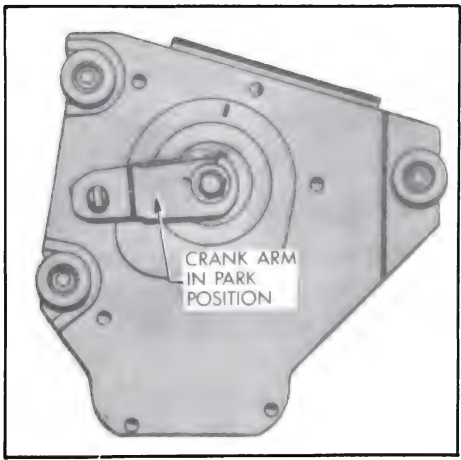
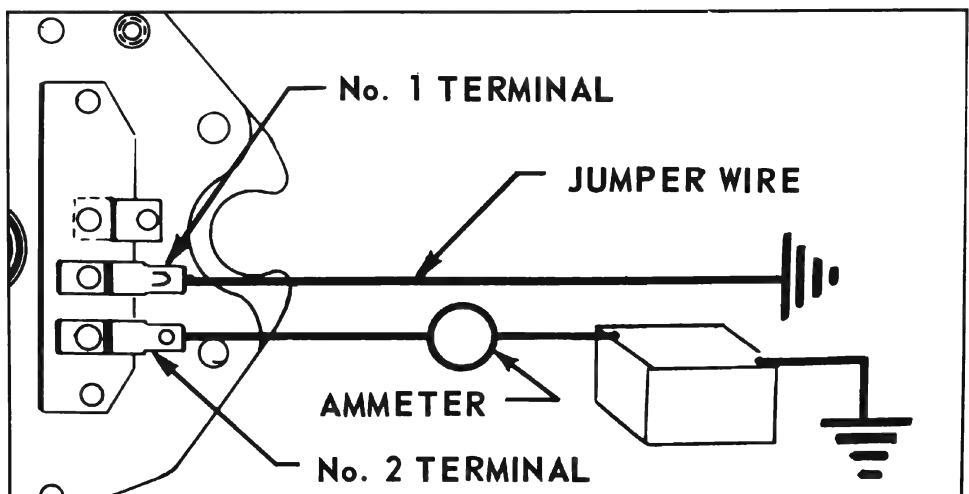

Figure 10-100—Park Position of Crank Arm
Figure 10-102—Connections to Operate Wiper Out of Car
When the car owner shuts the wiper "off" at the dash switch, the motor circuit to ground is opened at the dash. However, the parking switch contacts, which are normally closed, maintain the motor circuit to ground at the wiper. This allows the wiper to keep operating until the blades or wiper crank arm reach the park position (Blades approx. 2" above windshield molding). (Figure 10-100 shows the crank arm in park position.) At the same time the blades reach the park position, a cam on the output gear opens the park switch contacts. This opens the motor circuit to ground, stopping the motor. Thus, the park switch actually controls wiper operation only during that short period of time, after the owner turns the wiper "off" at the dash switch but before the wiper has completely stopped.
Figure 10-102 shows the proper method of connecting jumper leads to the wiper so that it can be operated independently of the dash switch or car wiring for test purposes. (NOTE: Specification table at end of this section lists current draw data.)
Step (a) but wiper still fails to operate, disconnect wiring harness from wiper and check for 12 volts at harness terminal that connects to wiper terminal No. 2, Figure 10-102. No voltage indicates defective car wiring. **CAUTION: DO NOT connect hot line to No. 1 terminal.**
(c) Connect 12 volt supply to No. 2 wiper terminal and connect a jumper wire from terminal No. 1 to ground (Figure 10-102). If wiper operates, the dash switch or wiring between dash switch and wiper is defective.
wiper terminal No. 2 (Figure 10-102). **DO NOT** connect any jumper wire to terminal No. 1.
Connect a 12 volt supply and an ammeter to wiper as shown in Figure 10-102 and observe current draw and wiper operation.
Wiper crank arm fails to stop in park position when jumper wire is removed from wiper terminal No. 1 (Figure 10-102).
(b) Check for grounded condition in the internal motor lead that connects to terminal No. 1, Figure 10-102.
Wiper crank arm stops rotating immediately when jumper wire is disconnected from wiper terminal No. 1 (Figure 10-102). **NOTE:** Crank arm should continue to rotate until park position is reached (Figure 10-100).
2. Reassembly of Crank Arm - Operate wiper to park position (Figure 10-102) and install crank arm on output shaft in the position shown in Figure 10-100. Clamp crank in vise before securing the retaining nut.